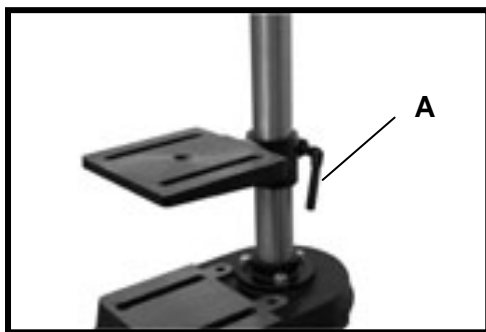

Fig. 12
1. The table can be raised or lowered on the drill press column by loosening the table clamp handle (A) Fig. 12. Move the table to the desired position on the column and tighten table clamp handle (A).